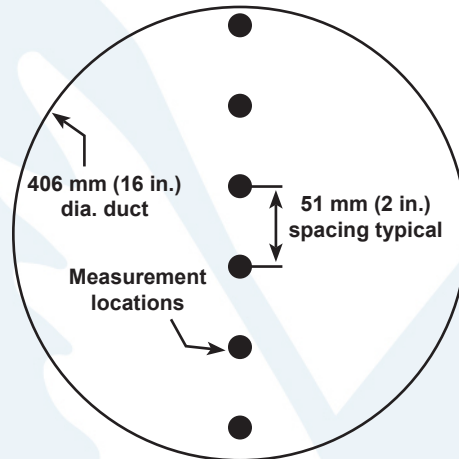

Figure 16 Locations to Take Air Velocity Readings Vertically Across a Duct
- b. Take air velocity readings vertically across the duct direction using the spacing shown in Figure 16 and record each reading.